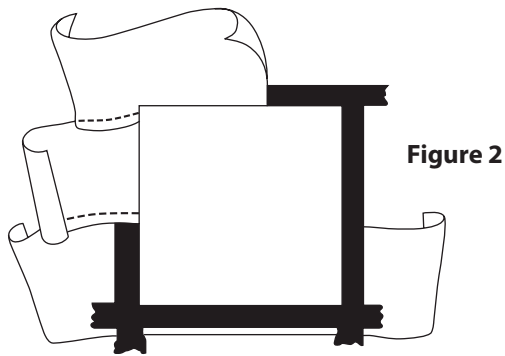

Figure 2
2. Apply the flashing paper in the normal manner. First, apply to the sill-strip then to the jamb-strips. The top flashing goes on after the window is installed and overlaps the top window fin (see Figure 2). Must be installed per AAMA2400-02.